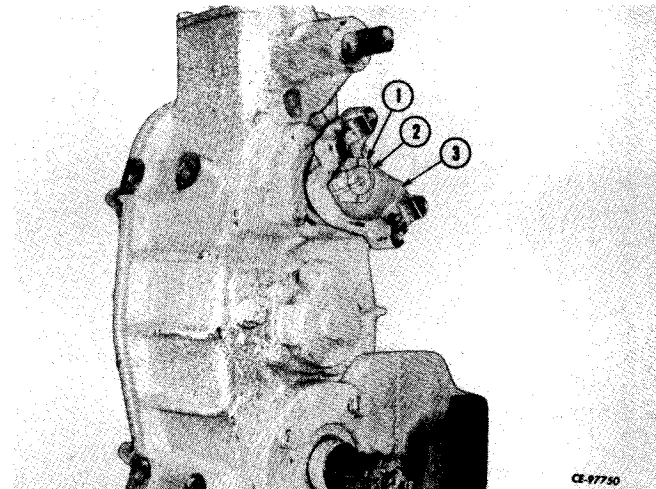

Figure 4-83
Remove cotter pin (2, Fig. 4-83), lock nut (1) and yoke (3).